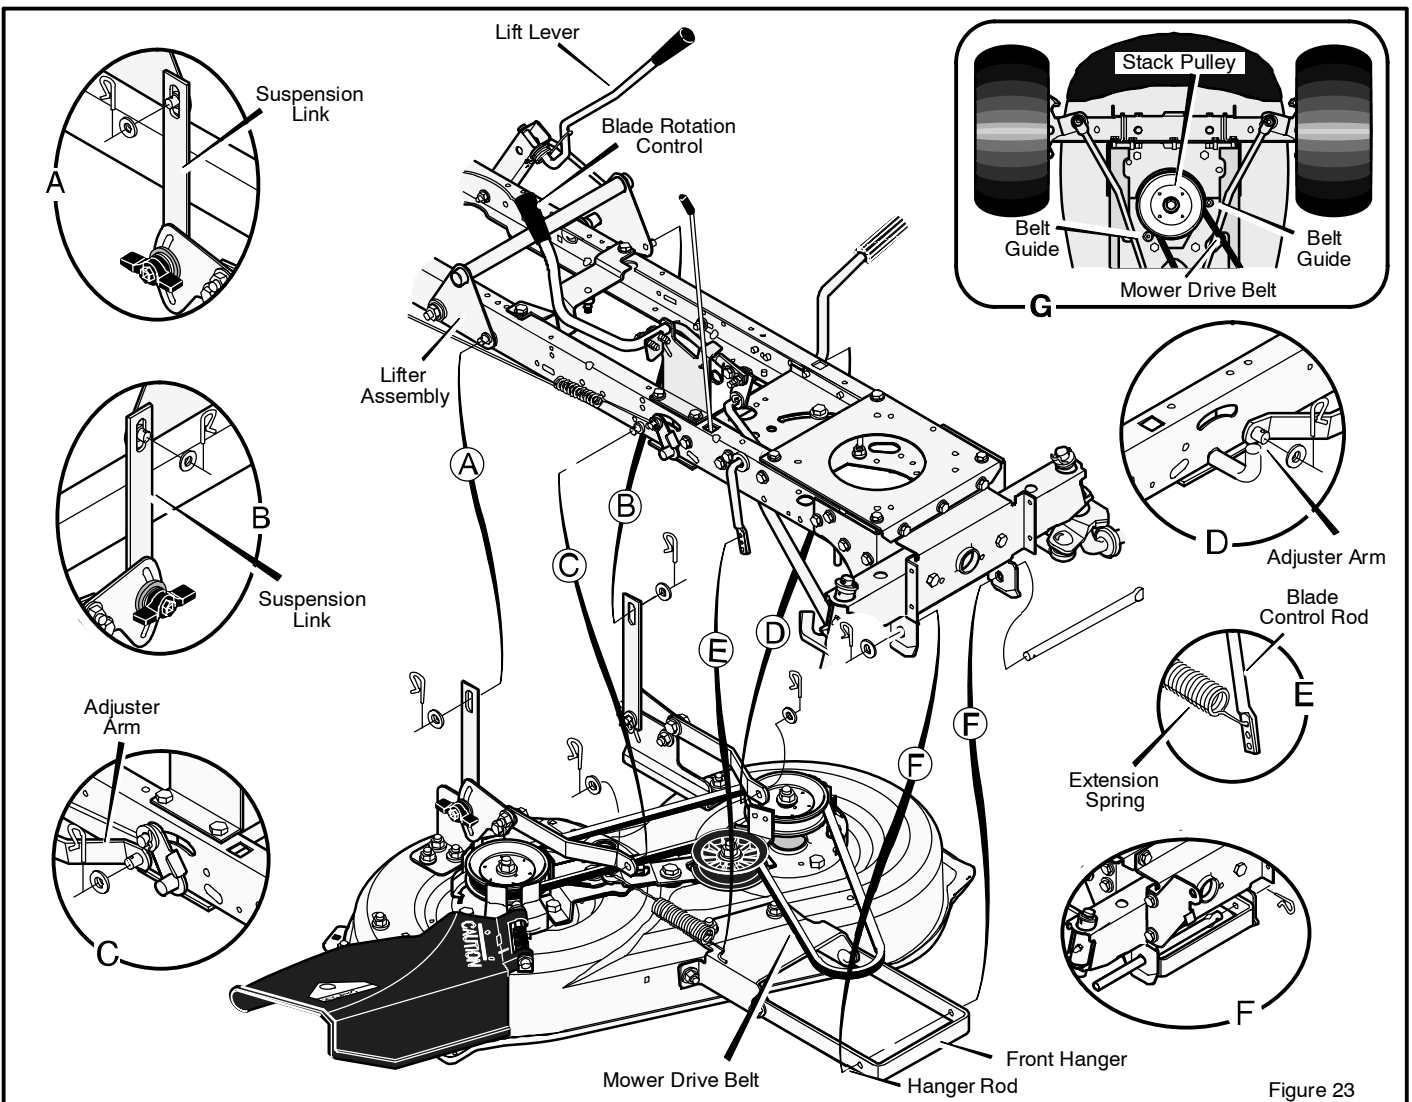

Figure 23
3. Remove the hair pins and the washers from the **adjuster arms** (Figure 23). See illustrations "C" and "D".